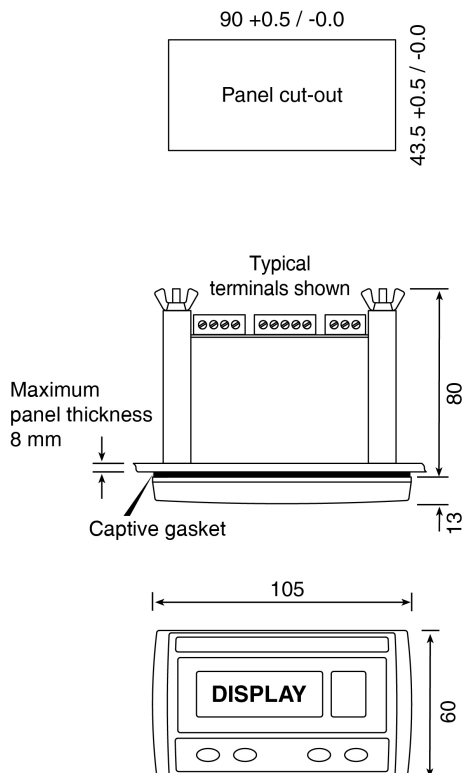

Fig 4 Dimensions
Fig 4 show the overall dimensions of the indicators together with the recommended panel enclosure cut-out dimensions.
- Cut the aperture specified in Fig 4 in the panel enclosure. Ensure that the edges of aperture are de-burred.